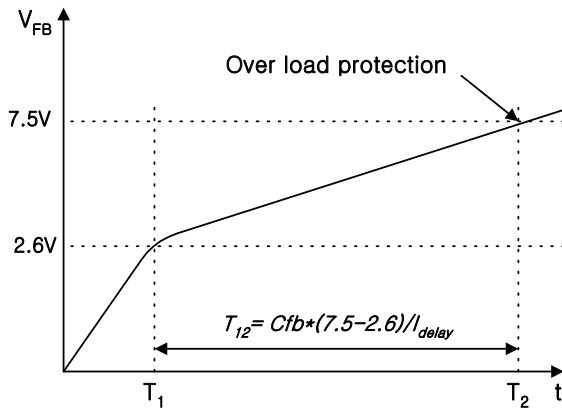

Figure 4. Over load protection
3.2 Over Load Protection (OLP) : Overload means that the load current exceeds a pre-set level due to an abnormal situation. In this situation, protection circuit should be activated in order to protect the SMPS. However, even when the SMPS is in the normal operation, the over load protection circuit can be activated during the load transition. In order to avoid this undesired operation, the over load protection circuit is designed to be activated after a specified period to determine whether it is a transient situation or an overload situation. Because of the pulse-by-pulse current limit capability, the maximum peak current through the SMPS is limited, and therefore the maximum input power is restricted with a given input voltage. If the output consumes beyond this maximum power, the output voltage (V_o) decreases below the set voltage. This reduces the current through the opto-coupler diode, which also reduces opto-coupler transistor current increasing V_{fb} . If V_{fb} exceeds 2.6V, D1 is blocked and the $5\mu A$ current source starts to charge C_{fb} slowly compared to when the $0.9mA$ current source charges C_{fb} . In this condition, V_{fb} continues increasing until it reaches 7.5V, and the switching operation is terminated at that time as shown in figure 4. The delay time for shutdown is the time required to charge C_{fb} from 2.6V to 7.5V with $5\mu A$. When C_{fb} is 10nF (103), T_{12} is approximately 9.8ms and when C_{fb} is 0.1 μF (104), T_{12} is approximately 98ms. These values are enough to prevent SMPS from being shut down during transient situations.